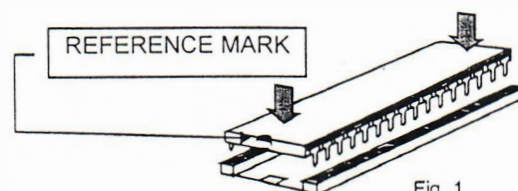

Fig. 1
- insert the new EPROM in the correct way putting the semicircular reference mark in the position indicated in the diagram of the circuit board: make sure that all the feet are aligned in their respective slots before pushing the EPROM gently into the socket as shown in fig.1.